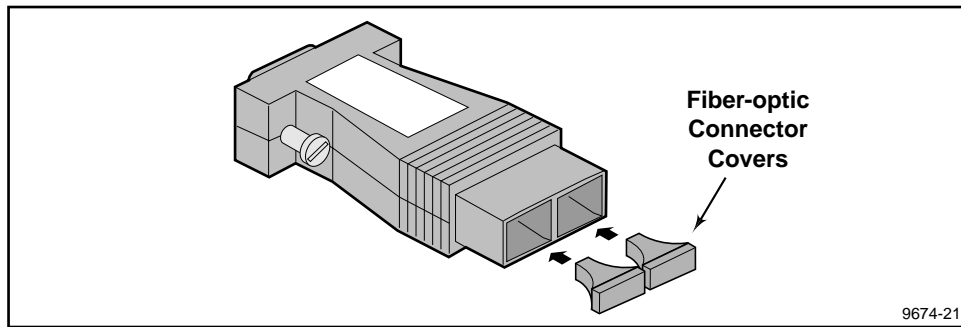

Figure 4-6. Copper-to-fiber Optical Media Interface Adapter
- Up 500 meters Multi-mode optical cable with optional copper-to-fiber Optical Media Interface Adaptor (between Video hubs). See Figure 4-6.